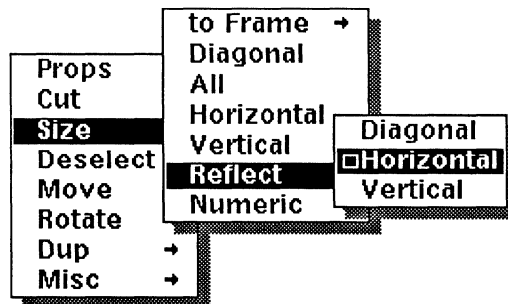

Figure 21-9. Reflect submenu
**Size Reflect** flips the object around its center. The **Reflect** command flips selected object(s) around either the vertical, the horizontal, or the diagonal axis depending on which command you choose on the Reflect submenu (Figure 21-9).